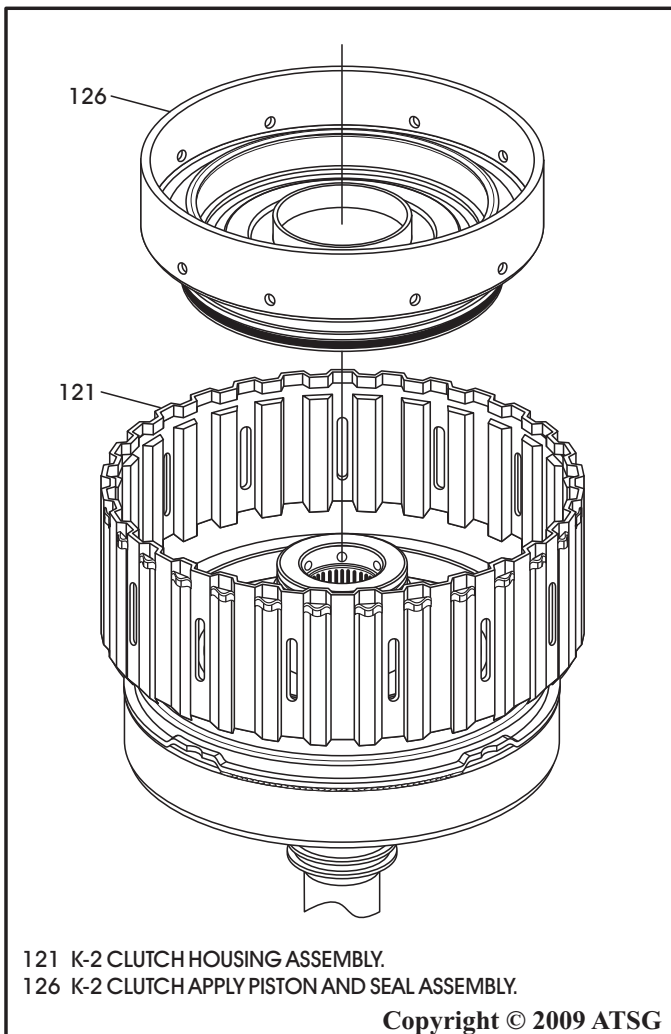

Figure 105
12. Install the K-2 clutch apply piston into the K-2 clutch housing, as shown in Figure 105.